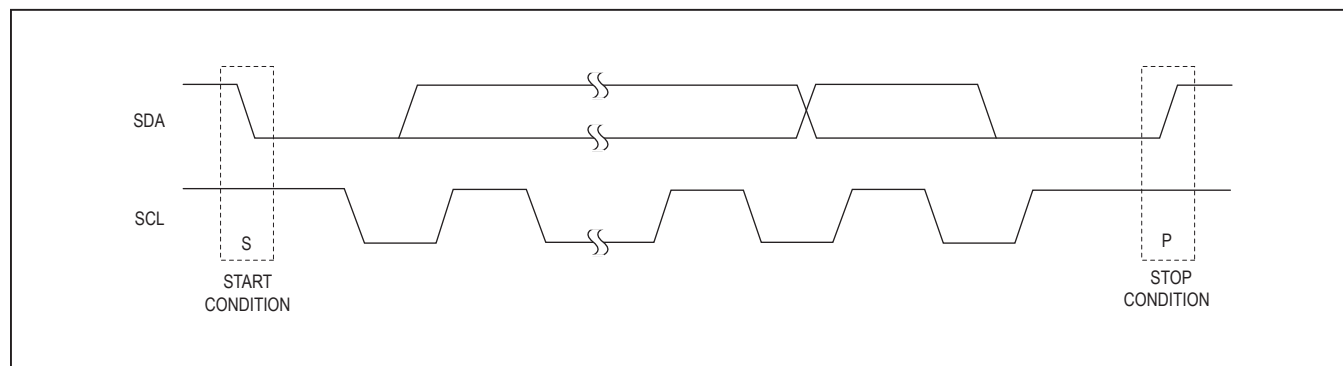

Figure 6. Start and Stop Conditions
Both SCL and SDA remain high when the interface is not busy. A master signals the beginning of a transmission with a START (S) condition by transitioning SDA from high to low while SCL is high (Figure 6). When the master has finished communicating with the slave, it issues a STOP (P) condition by transitioning SDA from low to high while SCL is high. The bus is then free for another transmission.